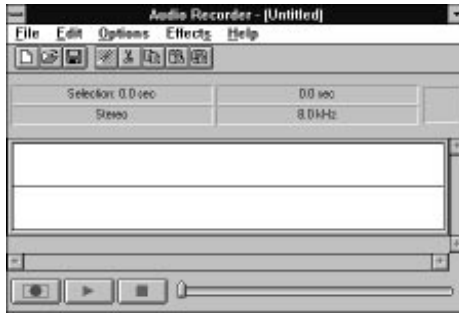

Figure 9-1 Audio Recorder Screen
2. From the Orchid Audio Applications window, double-click on the Audio Recorder icon. The following screen appears (Figure 9-1):